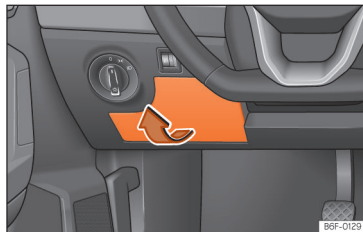

Fig. 167 On the dashboard on the driver side: lid of the fuse box.
- **Open:** remove the fuse box cover in the direction indicated >>> Fig. 167.